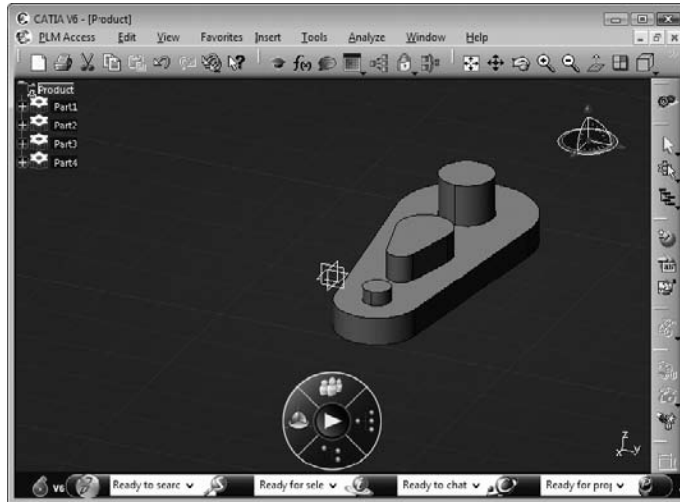

FIGURE 4.22
1. *Create* an assembly in the Assembly Design workbench, as shown in **Figure 4.22**: